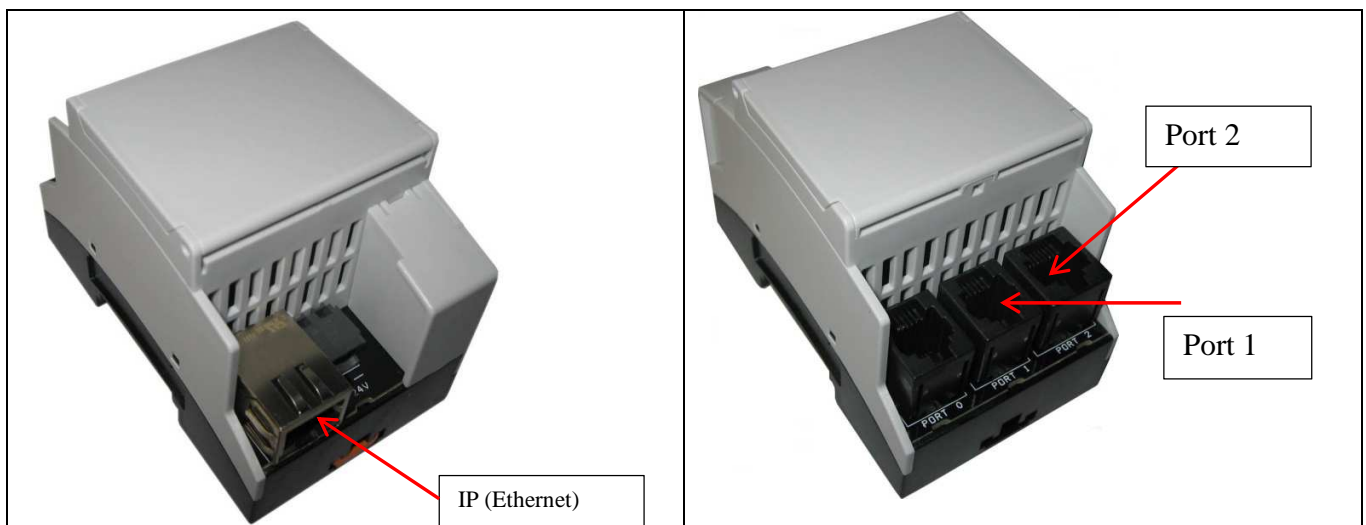

Figure 3
#### 3.1 Somfy SDN Network Wiring Directions (Internet Protocol). (See Figure 3 above.)
**3.2 Ethernet Communication Wiring Directions** (Internet Protocol). (See Figure 3 above.)
**3.3 RS-232C Communication Wiring Directions** (Serial-RS-232c Protocol). (See Figure 3 above.)